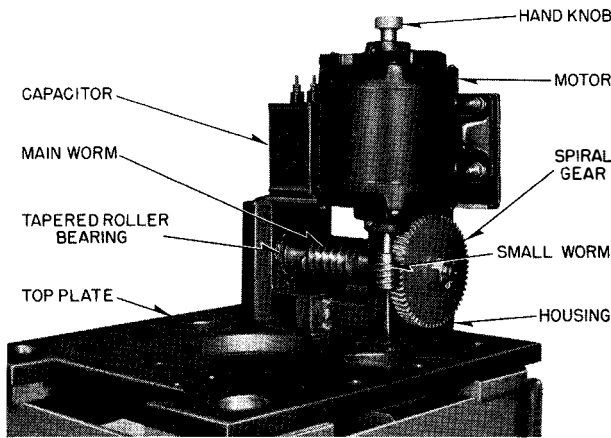

FIG. 10. Gear Reduction Assembly
3. The motor may be removed as follows: (See Fig. 10)
5. The top plate and worm housing assembly may now be removed as follows: (See Fig. 10)
7. To remove the worm from the worm housing: (See Fig. 10). (This can be done regardless of whether or not the worm gear has been removed).